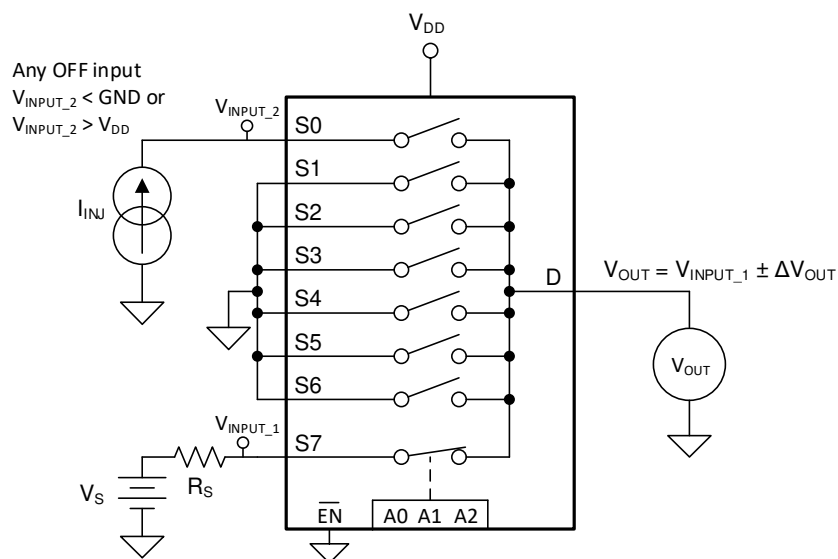

**Figure 8-10. Bandwidth Measurement Setup**
Bandwidth is defined as the range of frequencies that are attenuated by less than 3 dB when the input is applied to the source pin (Sx) of an on-channel, and the output is measured at the drain pin (D) of the device. Figure 8-10 shows the setup used to measure bandwidth.